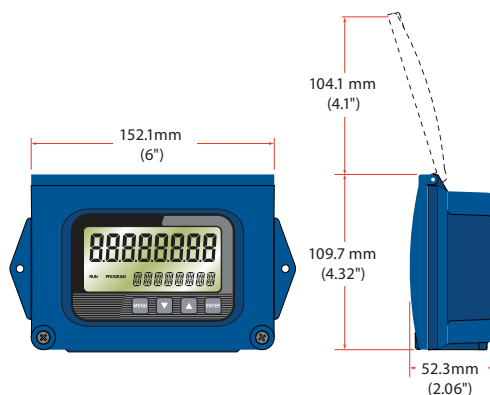

Fig. 2 UTM10 transmitter dimensions
- 3) **Mounting** - Refer to *Fig. 2* for enclosure and mounting dimension details. Ensure that enough room is available to allow for door swing, maintenance and conduit entrances. Secure the enclosure to a flat surface with two appropriate fasteners.